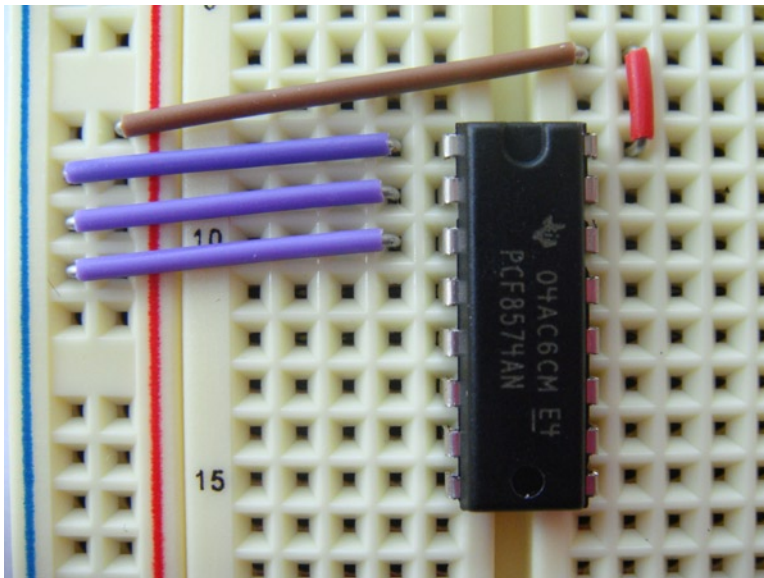

Figure 4-13. Breadboard jumper wire installed
2. I then like to lay out my jumper wire. If you look closely at Figure 4-13 you can see that I have tied pins 1, 2, and 3 to ground.